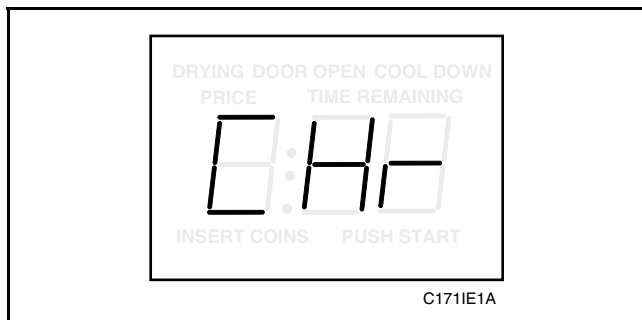

Figure 83
3. Press the LOW TEMP (+) pad **or** the NO HEAT (-) pad to scroll through the programmable options until “CHr” appears in the VFD, *Figure 83*.